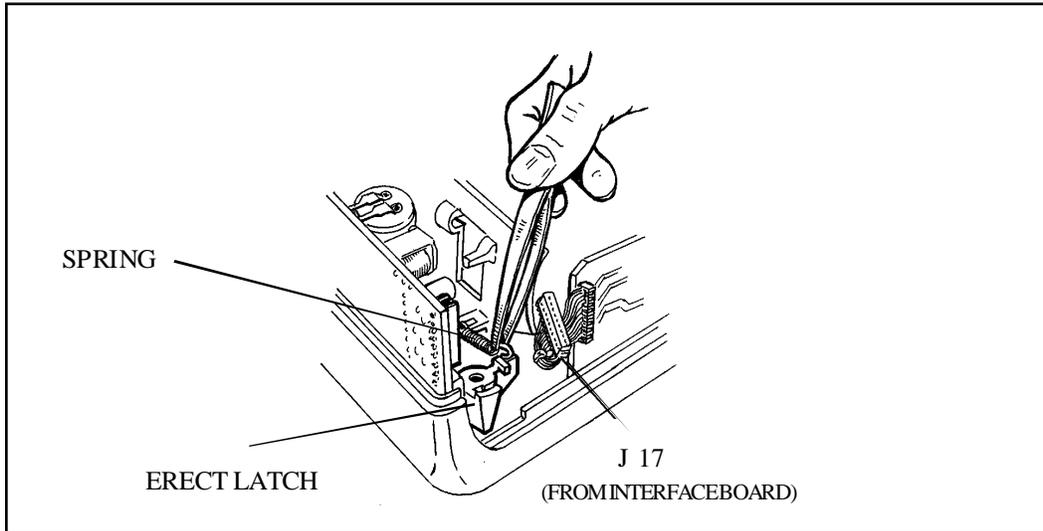

Figure 3-21. Unhooking Erect Latch Spring
- a. Lift the cabling from the Interface Board out of the way, to gain access to the Erect Latch Spring (Figure 3-21). Now unhook one end of the Erect Latch Spring from the Erect Latch.